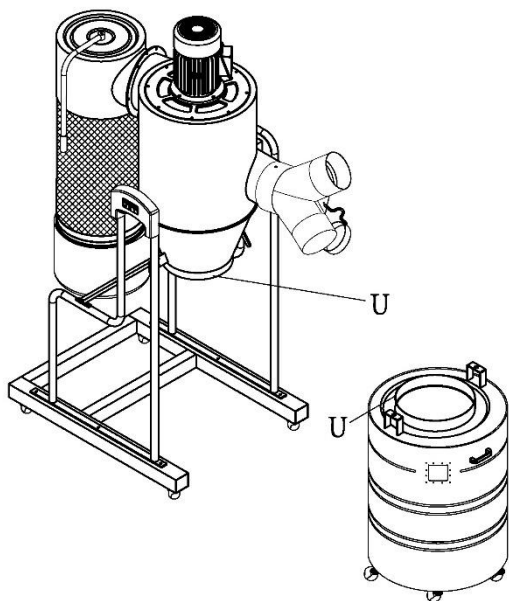

Figure 11
15. Apply foam tape (U) around funnel just above its bottom edge. See Figure 11. The foam tape should completely encircle the funnel.
16. Apply foam tape (U) around outside lip of drum opening. The foam should completely encircle the lip.